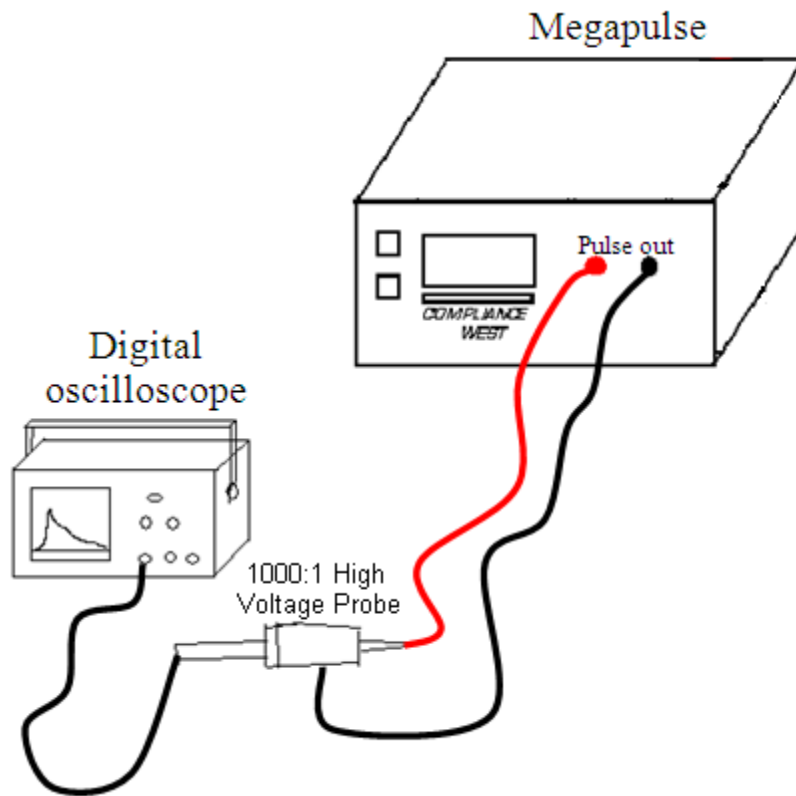

Figure 8 Waveform Measurement Setup.
3. Connect the ends of the test leads to an appropriate measuring instrument (typically an oscilloscope with a high-voltage probe). See **Figure 8** as an example.
4. Connect the “**Vtest**” and “**B**” Output jacks to an appropriate measuring instrument (typically an oscilloscope with a high-voltage probe). See **Figure 8** as an example.